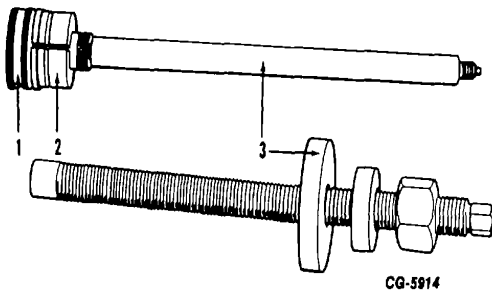

Figure 14. - Camshaft Bushing Puller and Installer Tool
- b. Using a Camshaft Bearing Service Set (3, Fig. 14) with back-up nut (1) and expanding collet (2) pull the bushings out of the crankcase. (See tool list for tool number).